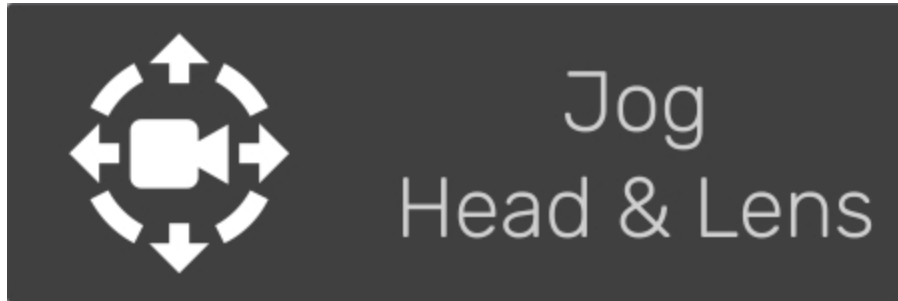

Figure 4.24 — Jog Head & Lens Button
1. On the touchscreen, tap the **Jog Head & Lens** button (Figure 4.24).